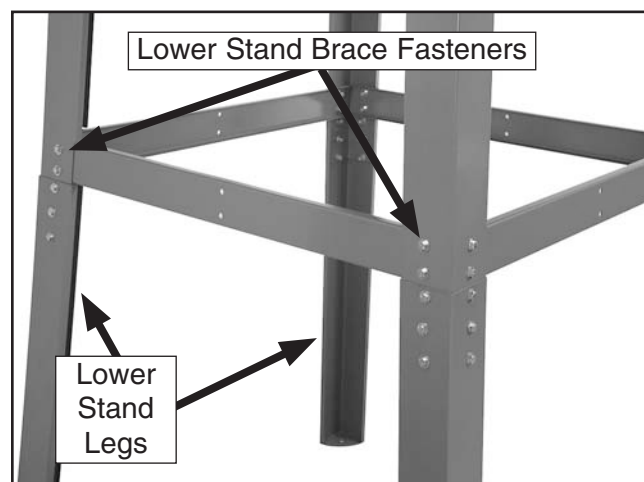

Figure 26. Lower stand legs attached to the upper stand assembly.
- To allow the mounting holes of the lower stand legs to align properly, slightly loosen the 16 fasteners that connect the lower stand braces to the upper stand legs (see **Figure 26**).